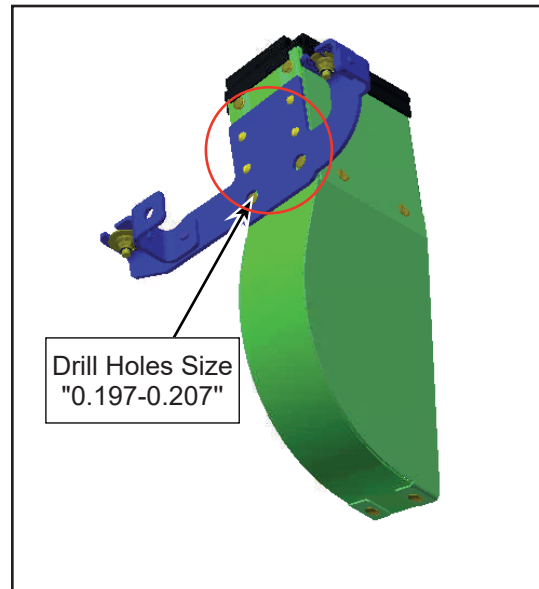

Figure 4 - Location of Drilled Holes
- 1.10. Drill the 4 other holes using the bracket as a jig and rivet the hole with size of "0.197-0.207"(see figure 4).